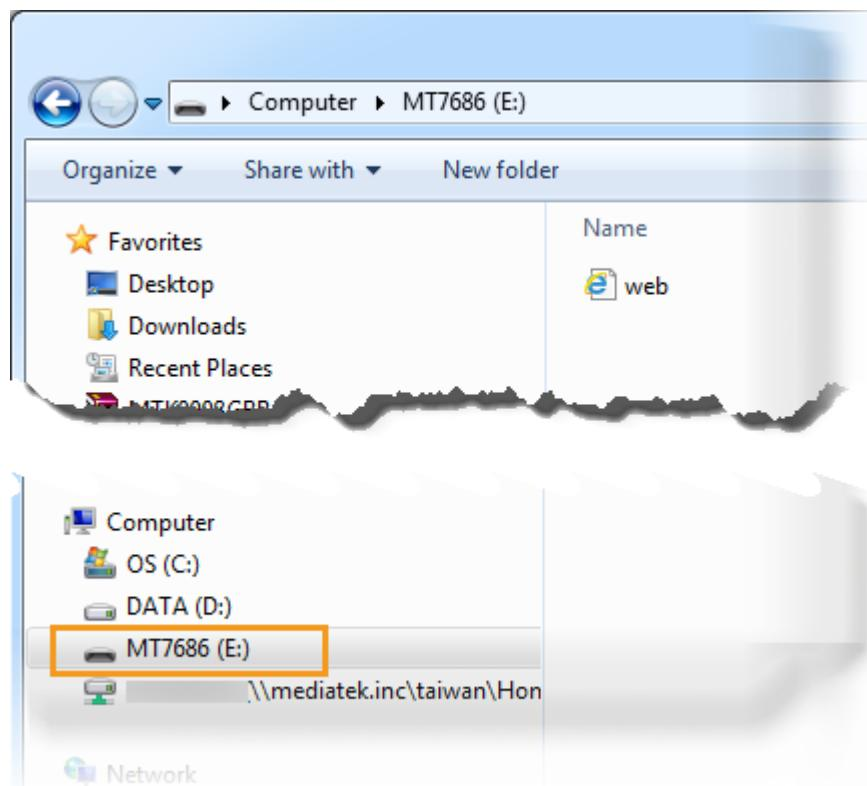

Figure 32. MT7686 removable storage detected
- 4) Navigate to **Computer** on your PC to check if a new mass storage named **MT7686** is available under **Removable Disk**, as shown in Figure 32.